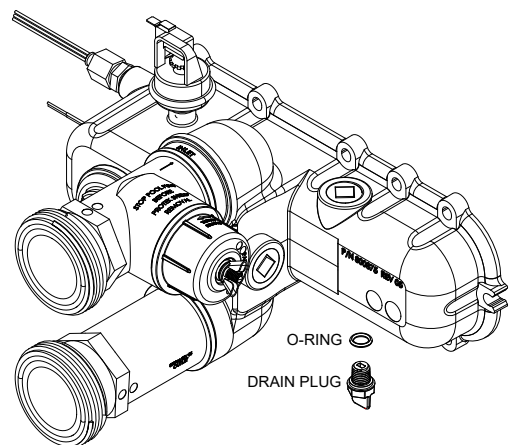

Figure 73. In/Out Header with Drain Plug
2. On the water connection, close any isolation valve to isolate the heater. Remove the lower right access panel to reveal the right side of the Inlet/Outlet header. The drain will be located underneath the header. Loosen and remove the drain plug. See **Figure 73**.